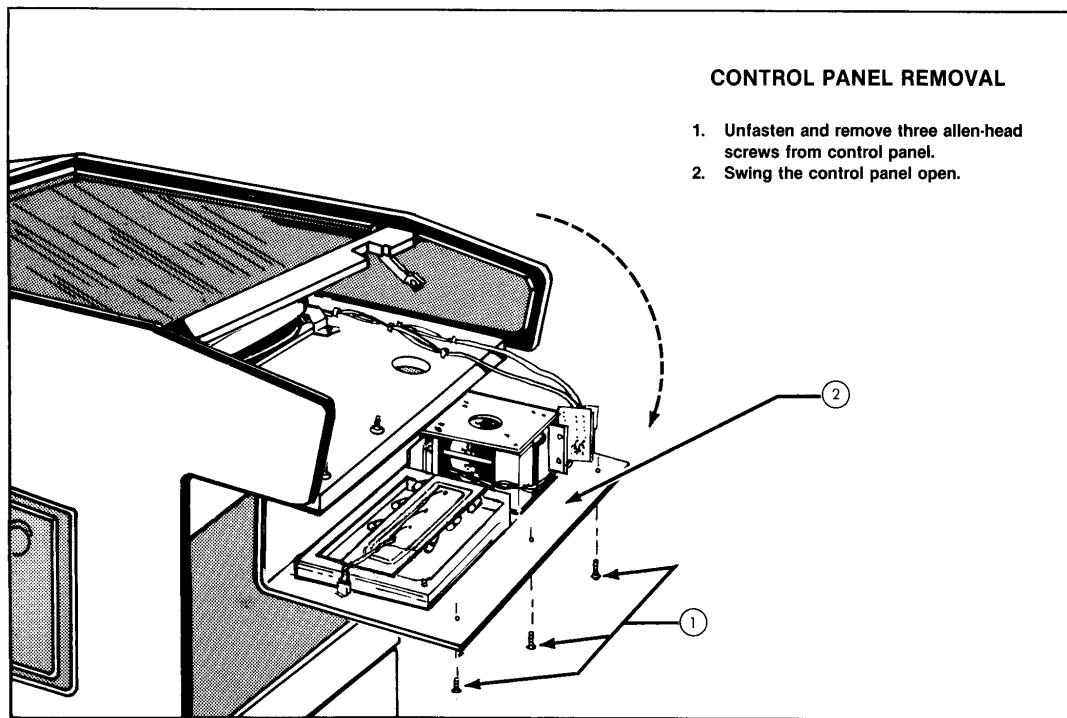

Figure 4-10 Control Panel Removal
E. CONTROL PANEL REMOVAL (See Figure 4-10)
Prior to replacing any removable component from the control panel, follow the steps outlined in Figure 4-10.